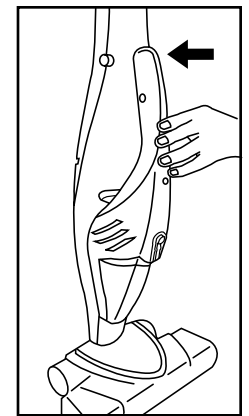

Fig. 7
5. To replace the handheld unit, insert the dirt cup into the main body first then press the upper portion of the hand vac into the main body until it's secure. (Fig. 7)